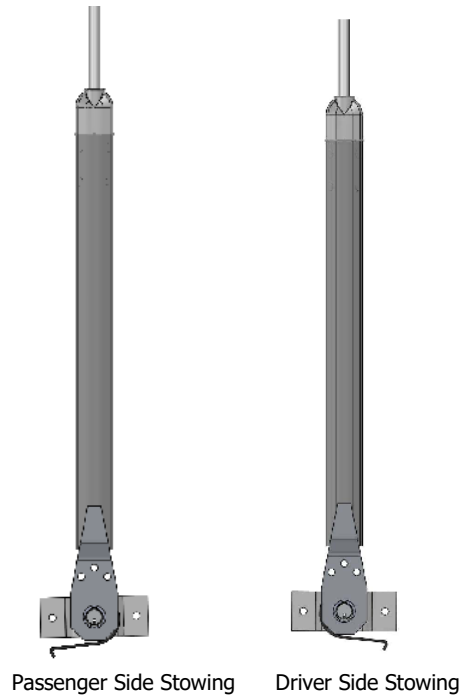

Fig.10
2. Assemble as shown below in figure 10.